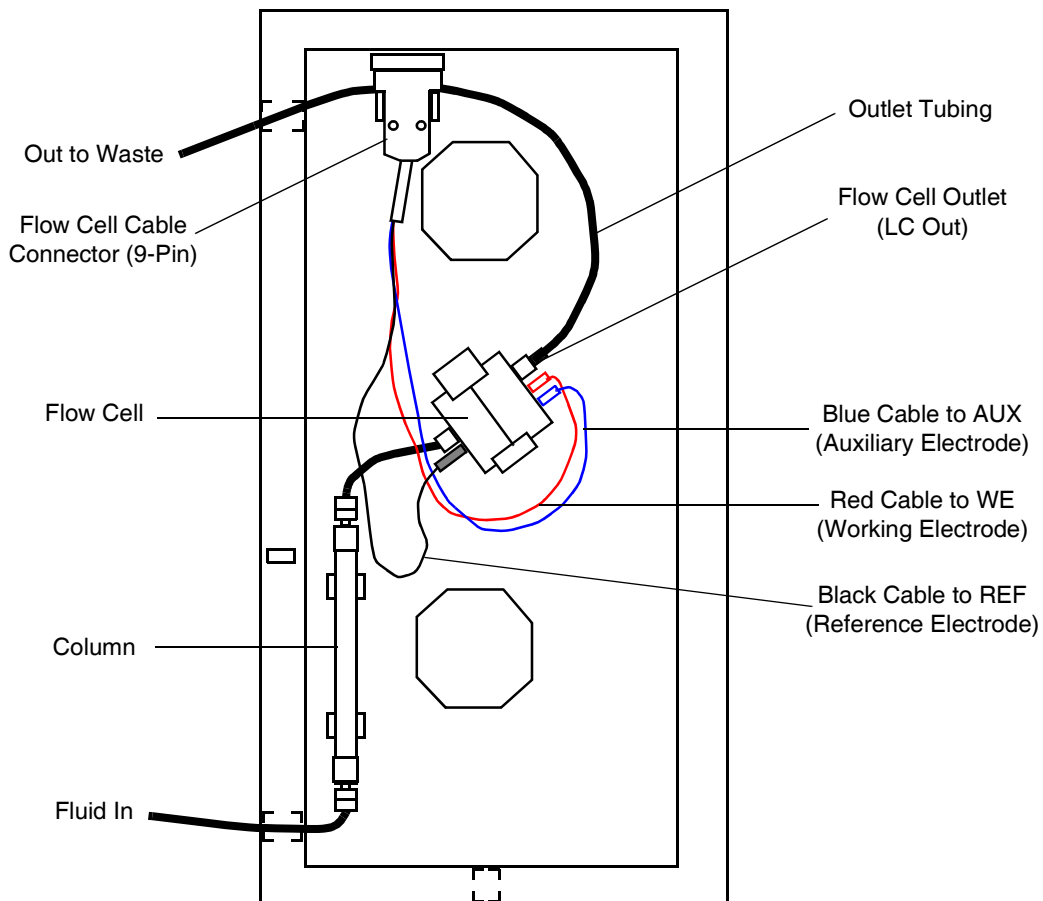

Figure 2-10 Installing the Flow Cell
through the upper-left hole in the chassis and out to the waste container (Figure 2-10).
4. Connect the flow cell cable to the flow cell as shown in Figure 2-10. Connect the WE, AUX, and REF on the flow cell using the red, blue, and black cell cable (WE – red, AUX – blue, REF – black).